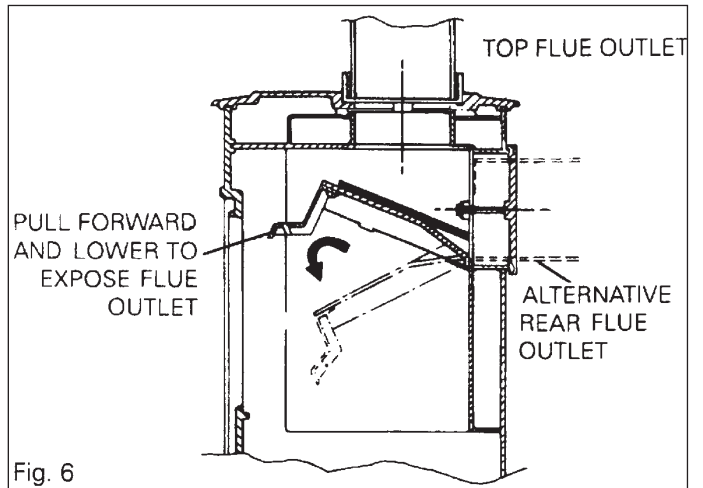

Fig. 6
**SWEEP MONTHLY - SEE FIGS. 6, 7, 8 AND 9.**
Draw throat plate forward about 25mm and gently swing it downwards to a still position to expose top flue outlet. Figs 6 and 7.
Draw throat plate forward about 25mm and gently swing it downwards to a still position to expose the rear flue outlet. Figs 6 and 7.